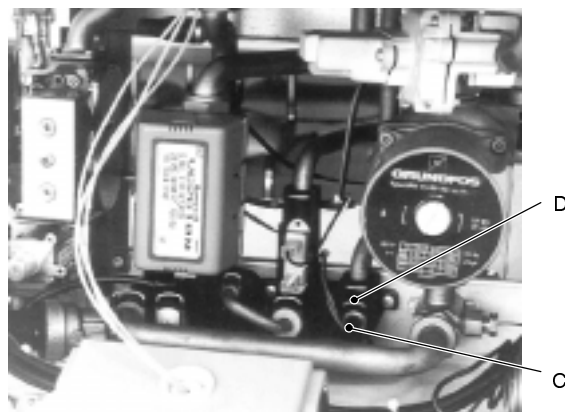

fig. 71
- 3 Remove the electric connector C of the temperature probe (fig. 71);